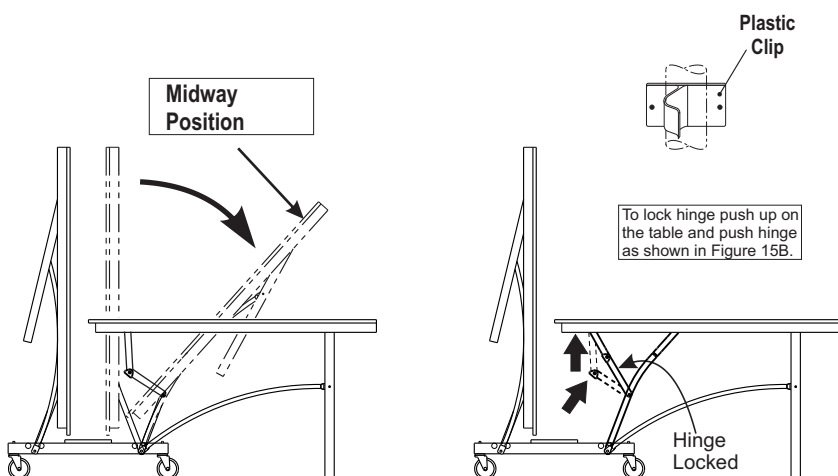

Figure 15A
1. Hold center of top edge. Gently pull outward to midway position. Continue to pull until disengaged from plastic clips and legs rest on the floor as shown in Figure 15A and 15B. Do not leave table partially opened at midway position.